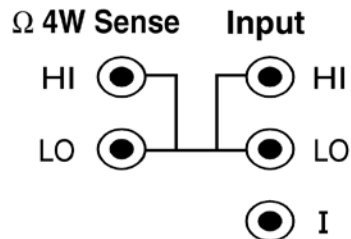

Figure 2-1 Short-circuit of the Input HI-LO and Sense HI-LO Terminals
4. As shown in Figure 2-1, short-circuit the Input HI-LO terminal and Sense HI-LO terminal (namely the zero point calibration input) using a 4-terminal